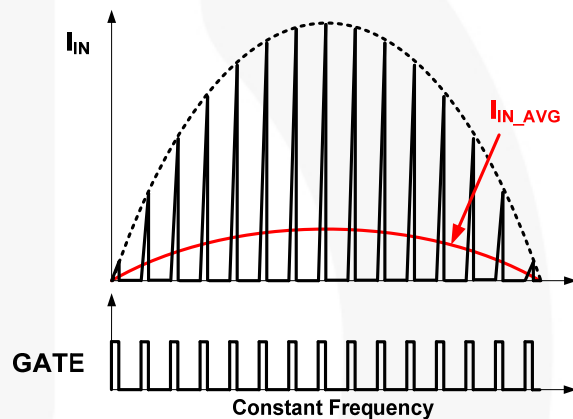

Figure 18. Input Current and Switching
In a conventional boost converter, Boundary Conduction Mode (BCM) is generally used to keep input current in phase with input voltage for Power Factor (PF) and Total Harmonic Distortion (THD). However, in flyback / buck boost topology, constant turn-on time and constant frequency in Discontinuous Conduction Mode (DCM) can implement high PF and low THD, as shown in Figure 18. Constant turn-on time is maintained by an internal error amplifier and a large external capacitor (typically $>1 \mu\text{F}$) at the COMI pin. Constant frequency and DCM operation are managed by linear frequency control.